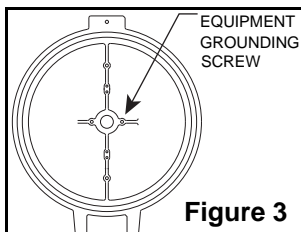

Figure 3
2. Ground luminaire mount. If mount is not grounded through a metal raceway, such as metal conduit, a separate grounding conductor must be utilized. Attach this grounding conductor to the provided "EQUIPMENT GROUNDING SCREW". Location of the equipment grounding screw is marked in each mount except cone pendant mount. See Figure 3 for location of equipment grounding screw in cone pendant mount.